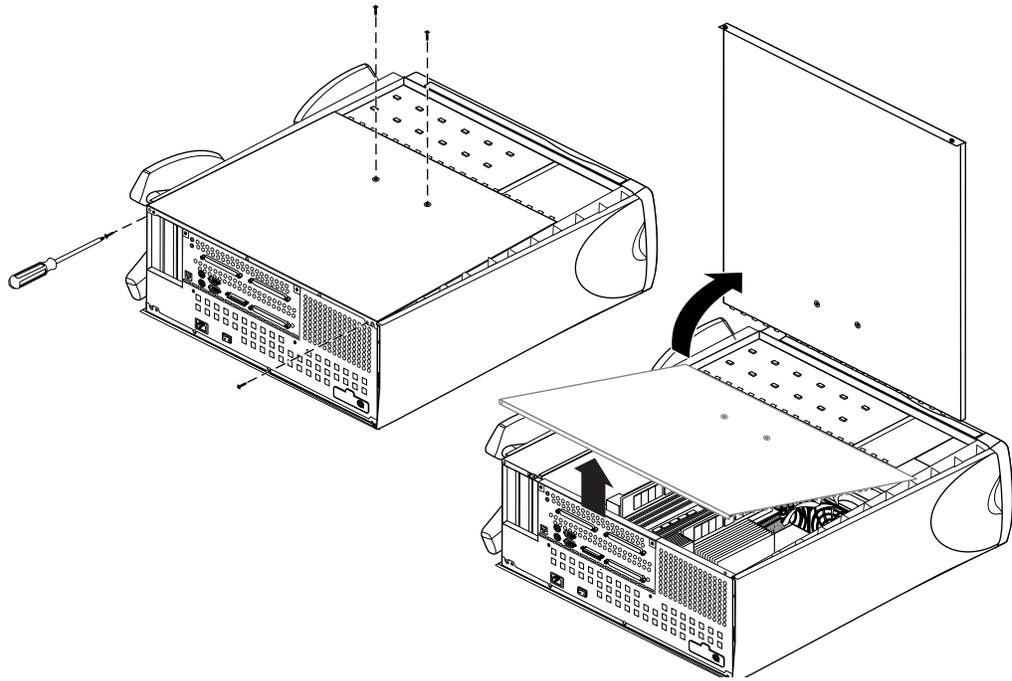

Figure 9-1 Removing the Chassis Access Cover
5. Remove the chassis access cover, as shown in Figure 9-1.